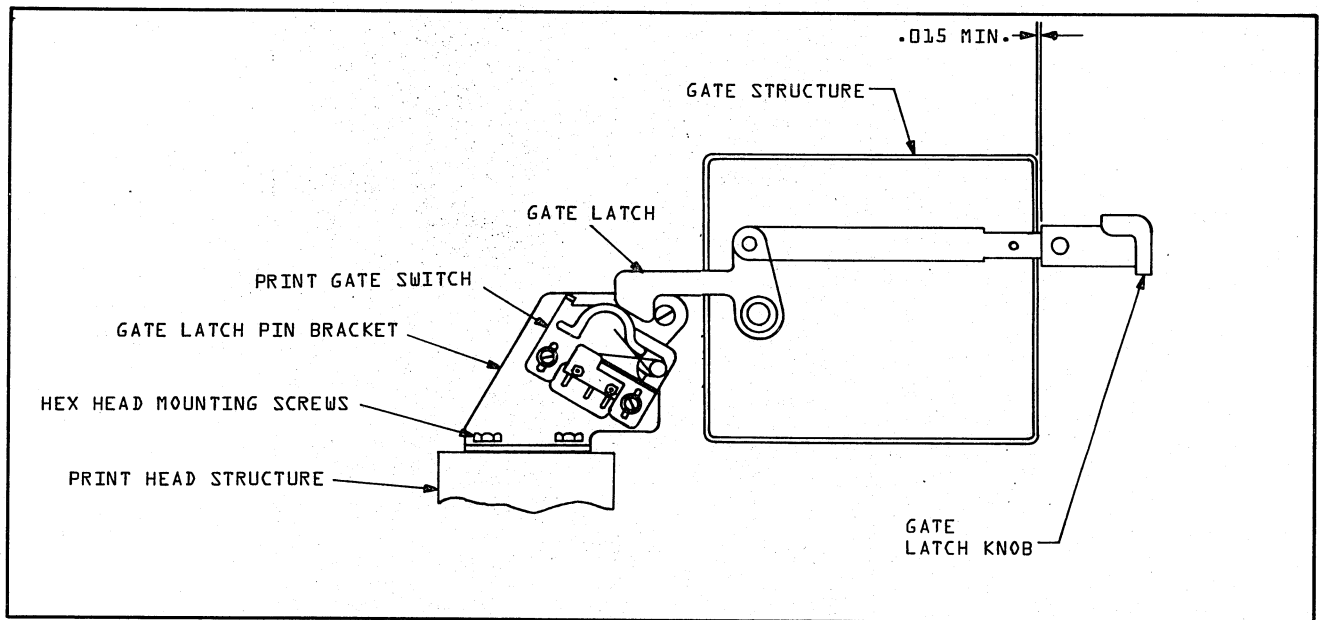

FIGURE 5-34. GATE LATCH PLATE ADJUSTMENT
3. The .015" (.375mm) feeler gauge must slide easily between the gate structure and the gate latch knob as shown in Figure 5-34. If the gauge does not fit easily, proceed to step 4.
8. The print gate switch must be adjusted so that when the gate is in the closed position, the latch actuates the switch but does not bottom it out. Adjust the switch if necessary by loosening the two slotted head screws on the mounting bracket. See Figure 5-34.